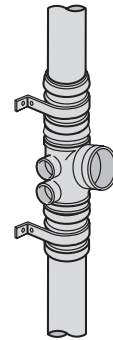

Fig.5e Forming the joints
**Step 7** – Slide back the Slip Couplers to form the joints. Secure each Slip Coupler with a fixing bracket (Fig.5e)